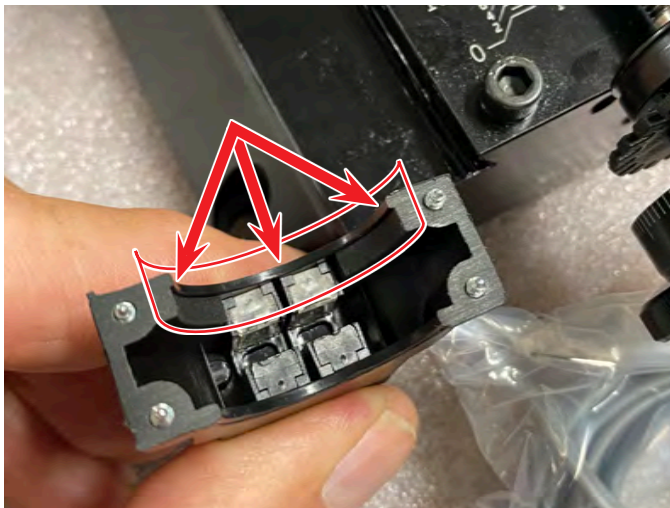

FIGURE 23—Bottom half of the DRO housing.
A. Both the bottom and top half of the DRO housing have a ridge on one side. This ridge goes into the groove on the DRO thrust collar (see Figures 23 and 24).